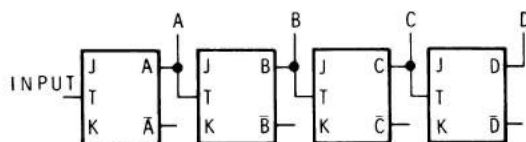

Figure 5-32
A binary counter is a sequential logic circuit that uses the standard pure binary code. Such a counter is made up by cascading JK flip-flops, as shown in Figure 5-32. The normal output of one flip-flop is connected to the toggle (T) input of the next flip-flop. The JK inputs on each flip-flop are open or high. The input pulses to be counted are applied to the toggle input of the A flip-flop.